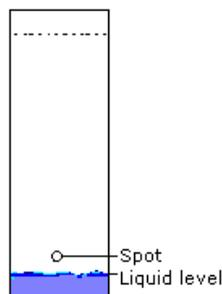

Fig 3
- Solvent volume must be sufficient for full migration but not so deep as to submerge the spot at the origin (see figure 3). Be sure to spot at 1cm above the bottom edge. Also make sure the spot is small (don't saturate the bottom of the strip with Tc99m).